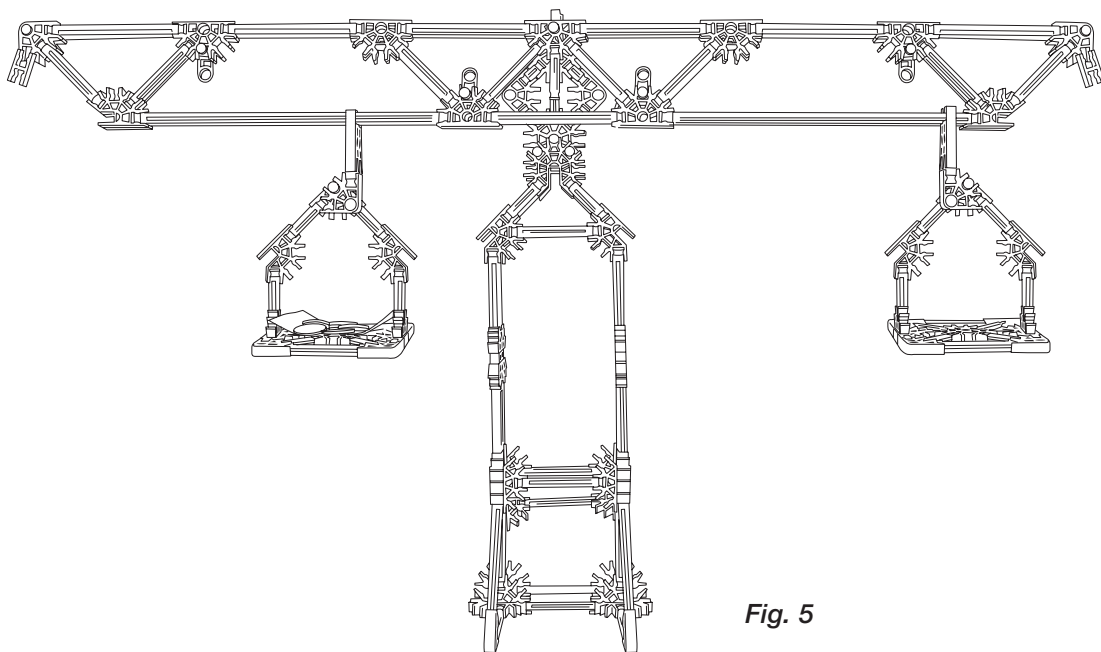

Fig. 5
1. Slide the **load** pan (L) to the far right of the fulcrum.
3. Slide the **effort** pan (E) to a position, to the left of the fulcrum, which is **one half the distance** you measured for the load pan in # 2 above. Record this distance on your worksheet.
4. Add enough pennies to the **effort** pan to balance the system. See *Fig. 5* below.